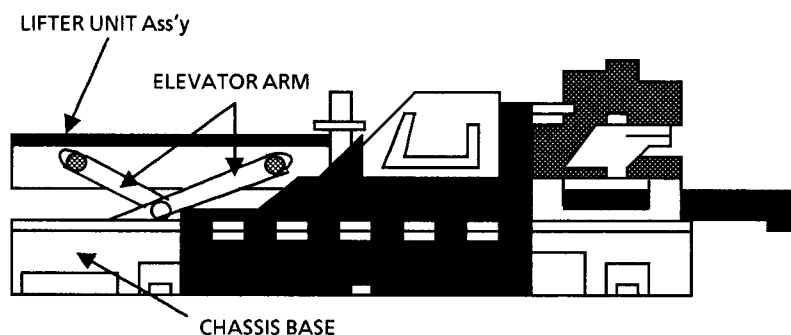

Fig.3
- 1) Remove the screw (O), and remove the feed nut support.
- 2) Remove the screw (P).
6. Removing the magazine holder (Fig.3)
7. Removing the LIFTER UNIT Ass'y (Fig.3)